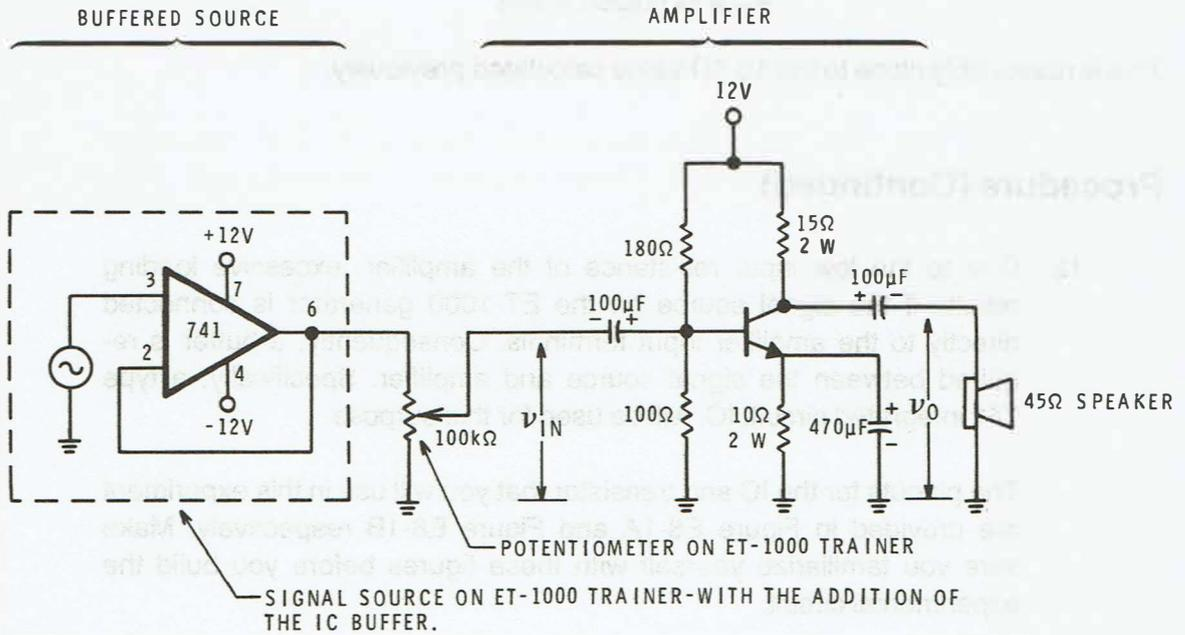

Figure E8-2
13. With the power off, construct the portion of the circuit enclosed by dashed lines in Figure E8-2. Make sure pin 7 is connected to +12V and pin 4 to -12V. If these connections are reversed, the IC can be destroyed when power is applied.
14. Connect the 100kΩ potentiometer on the ET-1000 Trainer to the output of the buffered source, as shown in Figure E8-2.
16. With the power off, construct the amplifier portion of the circuit shown in Figure E8-2. Once the circuit is constructed, make the following checks:
- b. The polarity of the electrolytic capacitors should agree with the polarities shown in Figure E8-2.